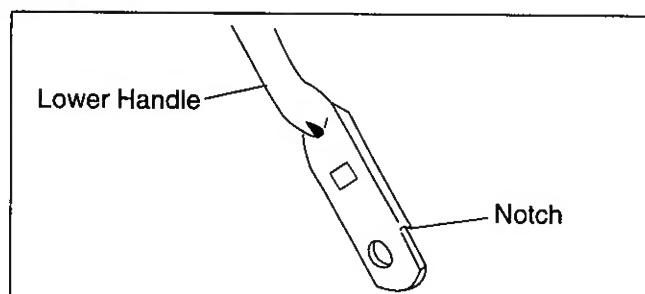

Figure 8
- Turn the lower handle around so the notch on the bottom of the lower handle is facing forward as shown in Figure 8. Reassemble, placing the bottom holes in the handle over the weld pins in the handle mounting bracket.